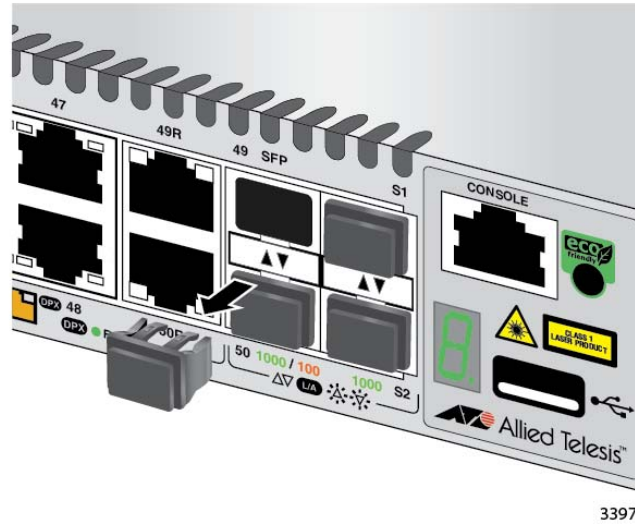

Figure 52. Removing the Dust Plug from an SFP Slot
1. Remove the dust plug from a transceiver slot on the switch. Refer to Figure 52 on page 107.